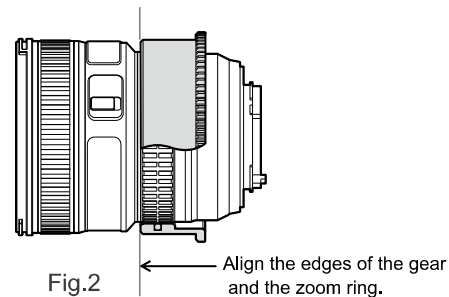

Fig.2
- Push the gear down as far as it will go. (Fig.2)